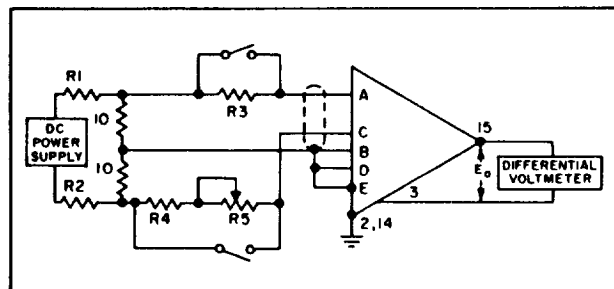

Figure 6-9. Input Resistance Test Circuit
- 1) Connect the amplifier as shown in Figure 6-9. Select R1 and R2 to provide the necessary attenuation for the selected amplifier gain (R1 and R2 are the same value). R3 and R4 are 50,000 ohm  $\pm 1\%$  wirewound resistors. R5 is a 10,000 ohm wirewound trimpot. It may be necessary to place R5 in series with R3 instead of R4 (as shown) depending on the characteristics of the amplifier under test. The output meter is a d-c differential voltmeter.